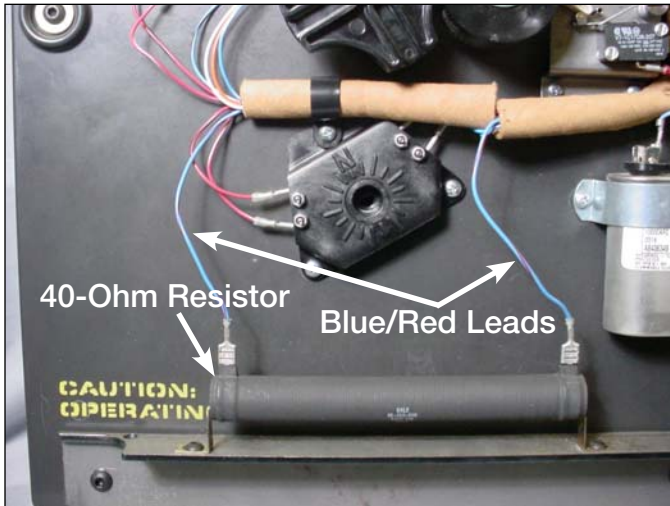

Figure 12.
4. Disconnect and remove the blue and red strip leads from the 40-ohm resistor. These connections are push-on connection. See Figure 12.